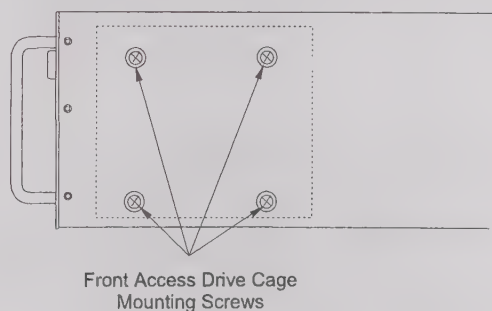

Figure 4-3: Drive Cage Mounting Screws
2. Remove the drive cage from the system chassis by removing the four drive cage mounting screws located on the drive side of the chassis (**Figure 4-3**). If necessary, remove connectors from existing drive(s) to allow easy access. Lift the drive cage out of the chassis.